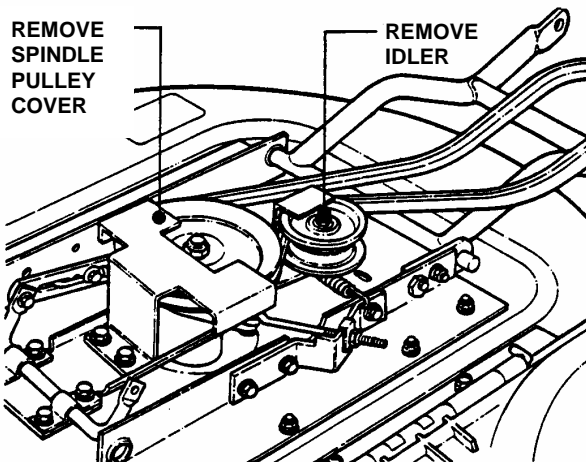

FIGURE 4.32
4. Remove deck belt idler pulley and spindle pulley cover. See Figure 4.32.